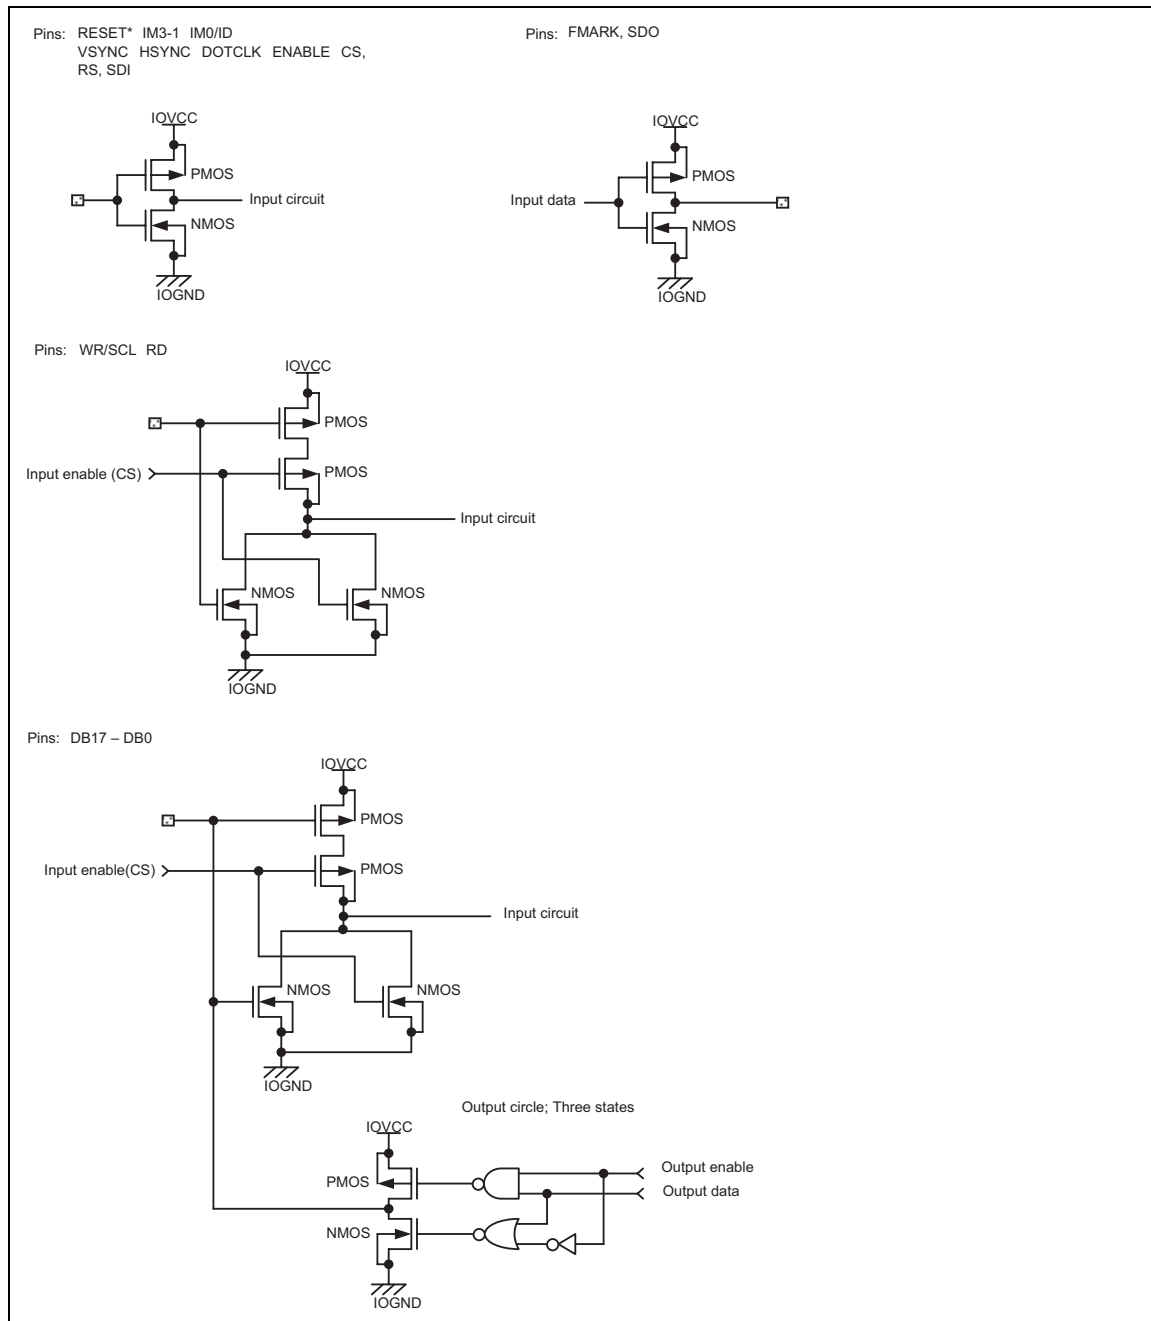

Figure 90
p. 172 Table 89: AP=3'h3 → AP=2'h3 (Current consumption, RAM access mode 1) p.173 AP=3'h3 → AP=2'h3 (Current consumption, RAM access mode 2). AP=3'h3 → AP=2'h3, COL=2'h0 → COL=1'h0 (LCD Power Supply Current, 262-k color display operation). AP=3'h3 → AP=2'h3, COL=2'h1 → COL=1'h1 (LCD Power Supply Current, 8 color display operation). p.181 Figure 86: Change wiring. p.185 Figure 89: AP=3'h1 → AP=2'h3 p.186 Figure 90: AP=3'h1 → AP=2'h3 p.187 Figure 90: Load capacitance C25pF → 20pF